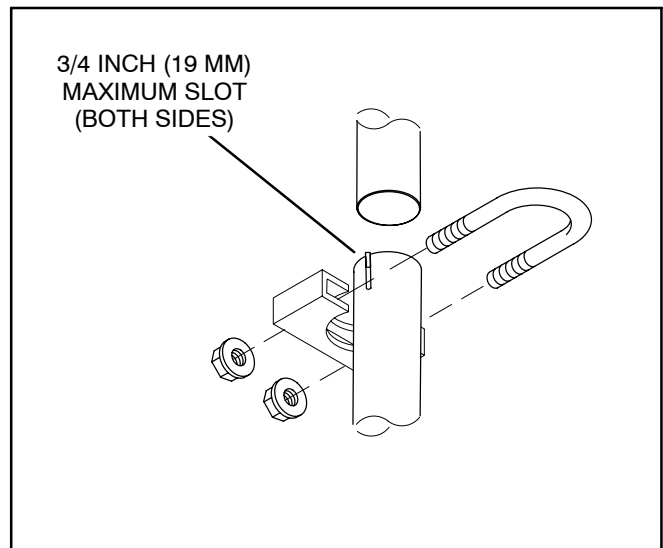

FIGURE 3-2. EXHAUST TAILPIPE CONNECTIONS
2. Use U-bolt muffler clamps to connect sections of tailpipe. It is recommended that the overlapping pipe be slotted as shown in Figure 3-2.